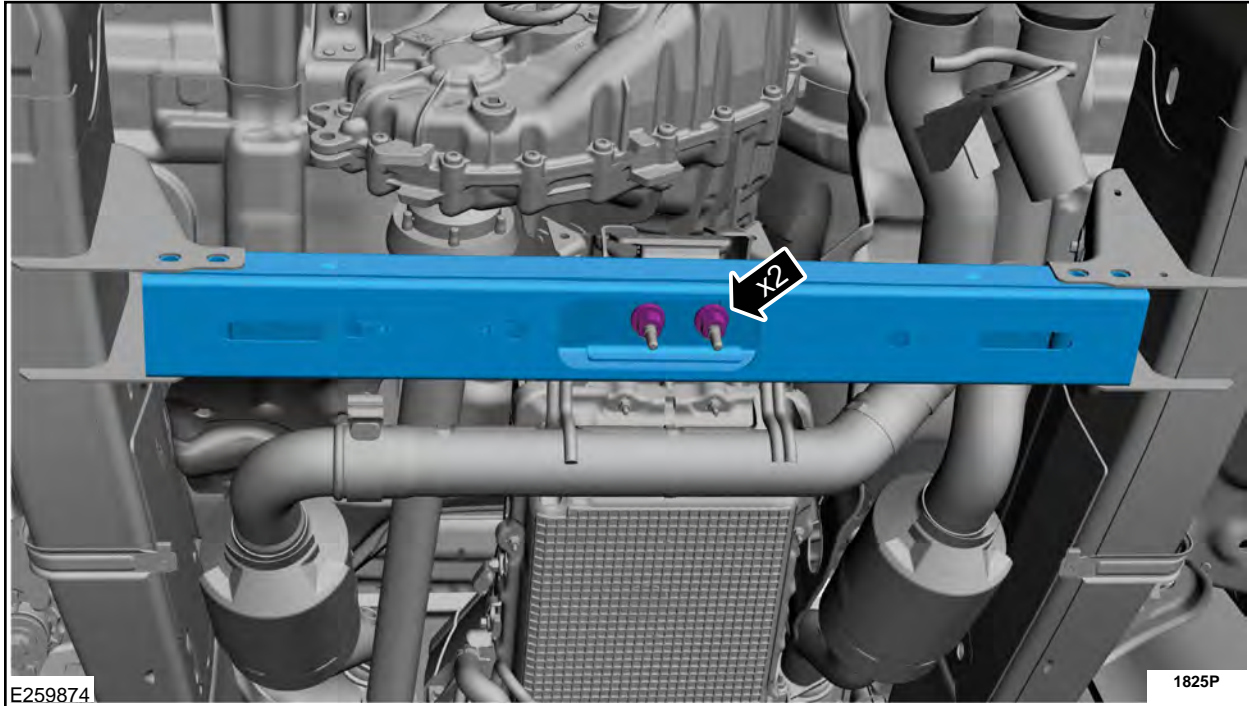

FIGURE 23
40. Remove the transmission mount nuts and the transmission support crossmember. See Figure 23.